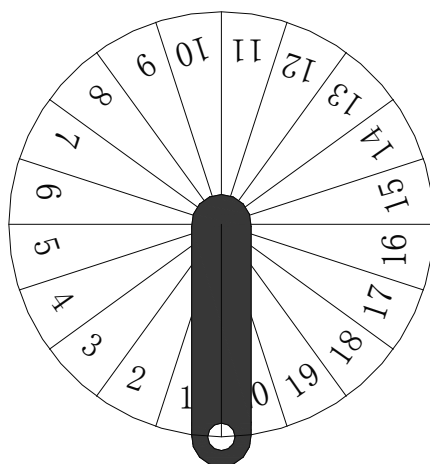

Fig.5-6-6 Motor running segment
1. Section numbers: the stepper motor rotation cycle is divided into 20 sections, as shown in Fig5-6-6, the following three diagrams is “a rate”...”Twenty-speed” speed sections in units of time, set the value the greater the longer the period the stepper motor, the speed is slower.